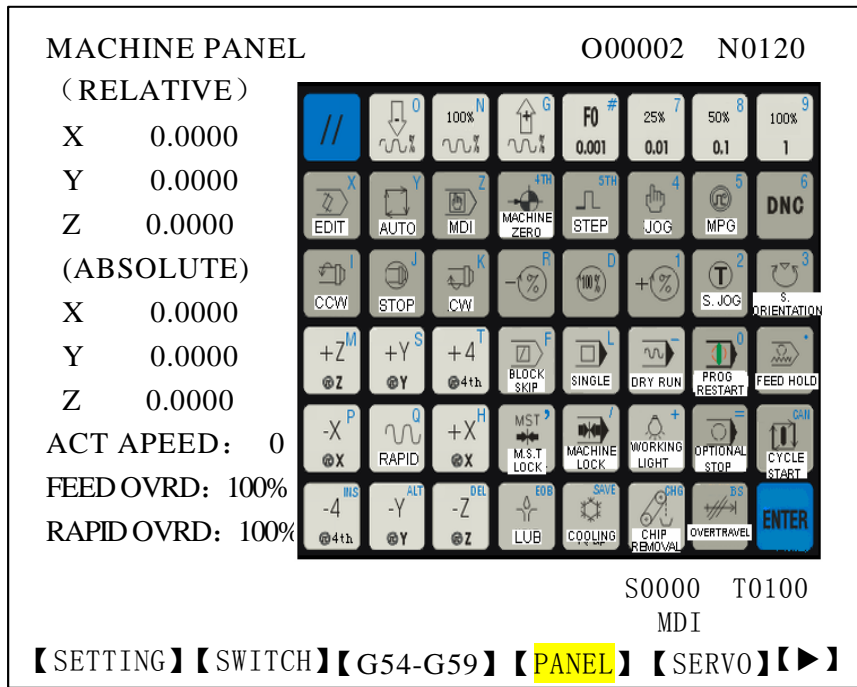

Fig. 3-5-4
1. Press **【PANEL】**soft key to enter machine panel page, which is shown as following(See Fig. 3-5-4):